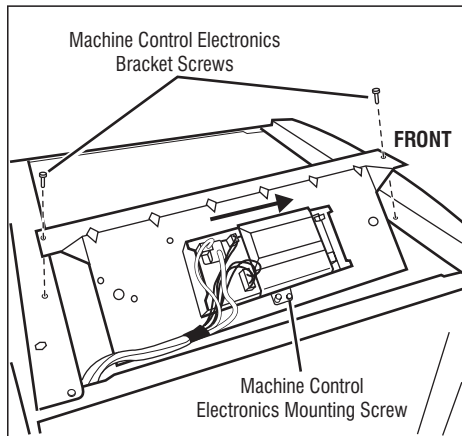
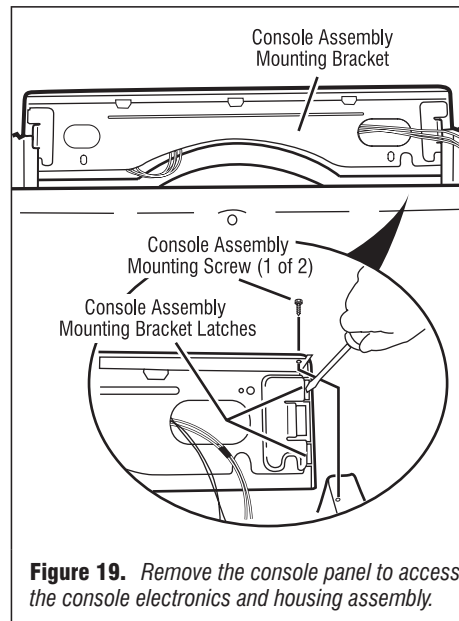

Figure 17. Remove machine control electronics from mounting bracket.
Figure 19. Remove the console panel to access the console electronics and housing assembly.
- Slide the bracket over the top of the drum to access the machine control electronics connectors and mounting screw. See figure 17.
- Remove the screw holding the machine control electronics assembly to the mounting bracket. See figure 17.
- Remove the screw that fastens the assembly to the machine control mounting bracket (figure 17), and the two screws that fasten the console assembly to the dryer (figure 19).
- Slide the console up and off of the dryer. See figure 19.
- The console mounting bracket is fastened to the console front panel with two latches at both sides of the console assembly. Unlatch the bracket gently with a screwdriver while pulling the mounting bracket assembly out. See figure 19.